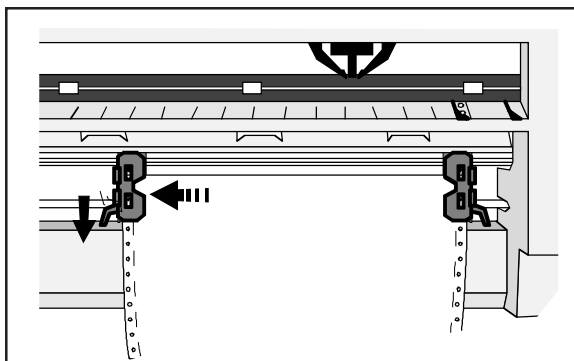

Figure 3-9. Making Sure the Paper is Taut
7. Slide the right-edge tractor as needed to make the paper just slightly taut between the tractors, as shown in figure 3-9. Then, lock the right-edge tractor into place.